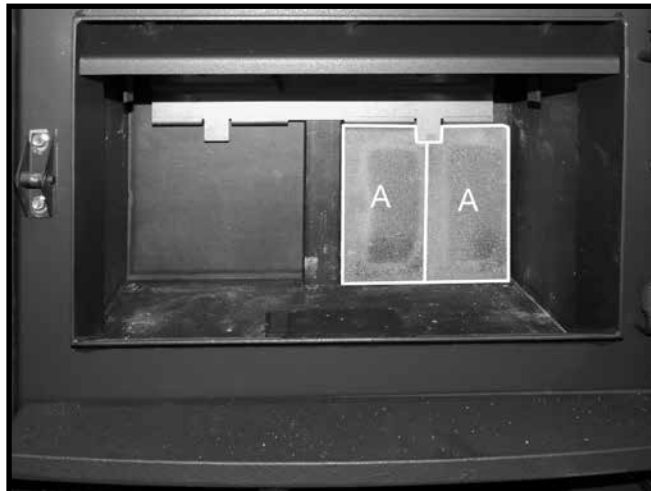

Figure 23: Installing the 2nd rear wall firebricks.
2. Slide a 2nd "A" firebrick underneath the tab on the brick rail (Figure 23).